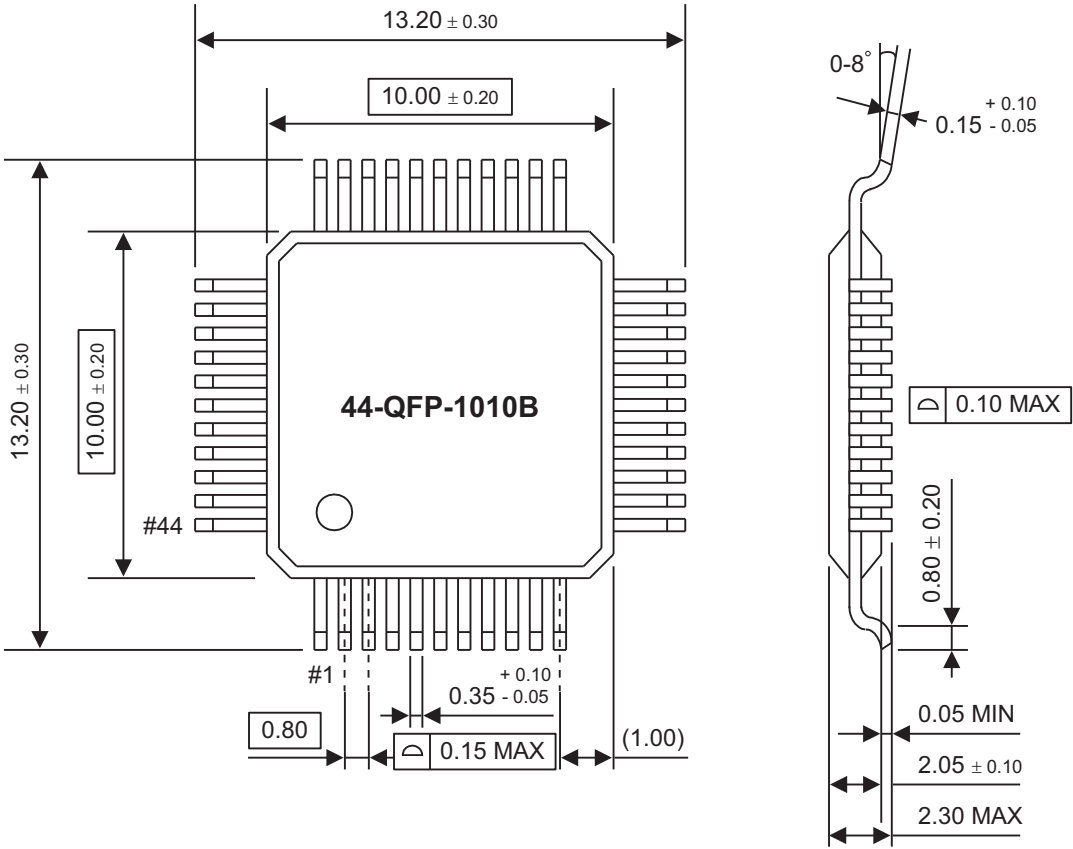

Figure 100. 44-Pin QFP Package Dimension
► **Note:** In Figure 100, dimensions shown are in millimeters.